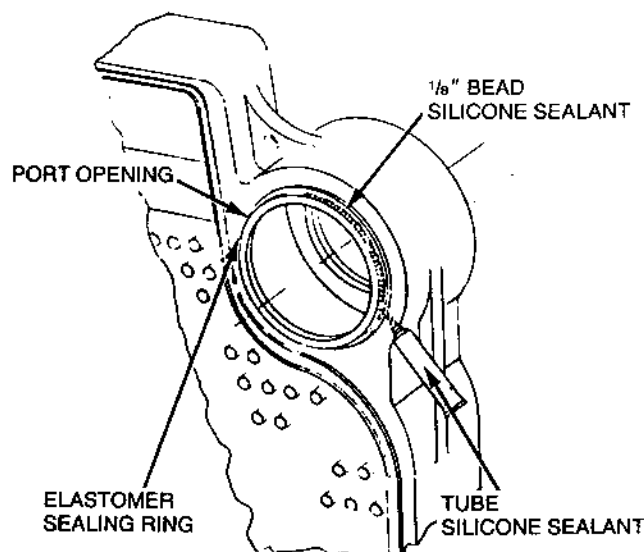

FIGURE 3
- Unburned oil vapors can cause failure of the elastomer sealing rings. After the elastomer sealing rings have been set in the port openings of the section, make a $\frac{1}{8}$ " diameter continuous bead of silicone sealant around the outside of the rings. Follow this procedure for each sealing ring installed (see FIGURE 3).